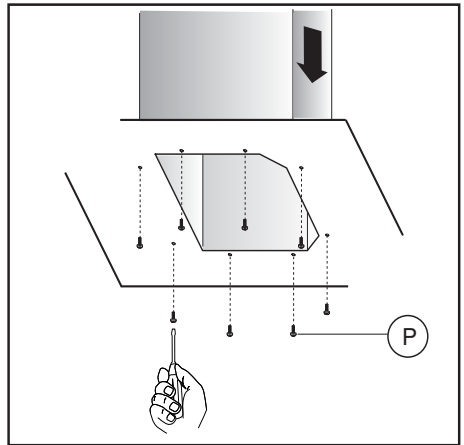
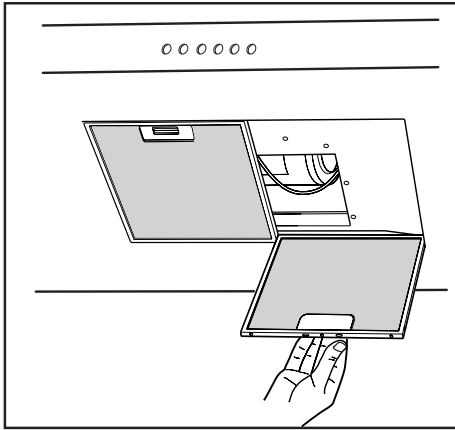

Fig.14
Fig.16
Before proceeding with the assembly operations, remove the anti-grease filter(s) (Fig.16) so that the unit is easier to handle.
-If the cooker hood is supplied with a lower chimney piece that must be fixed to the hood body with screws, remove the anti-grease filters from the hood by acting on the relevant handles (Fig.16). Then screw the lower chimney piece pipe to the inside of the hood, using screws **P** (Fig.14). Re-locate the filters in their seat.